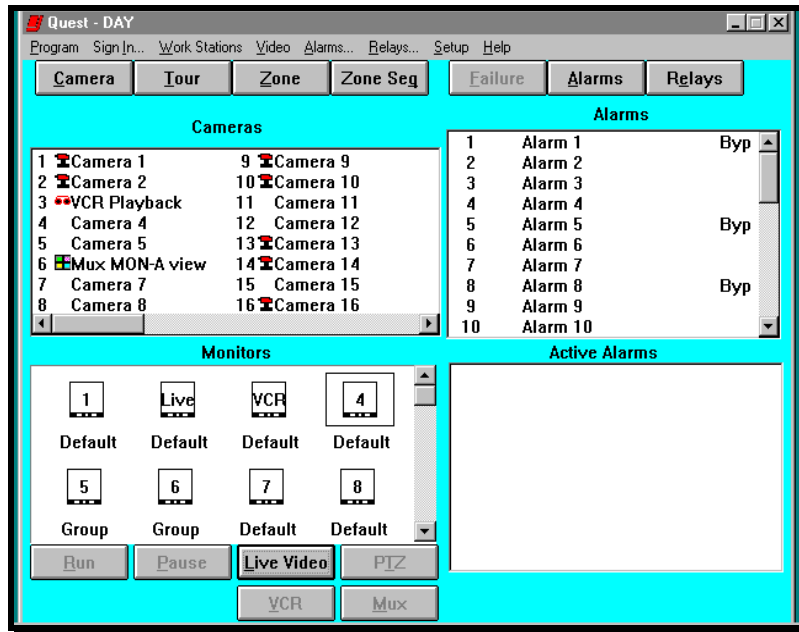

Figure 2-3. Operating Screen
The Operating Screen displays the status of the system's monitors, alarms and relays (Figure 2-3). This screen is also used to execute all of the system's operations; such as video switching, resetting alarms, positioning a camera, just to name a few. Each of the operations will be discussed later in this chapter.
-  If a camera is a dome, has a pan/tilt or has a zoom lens attached, then a pan/tilt icon will be displayed next to the camera input number as illustrated in Figure 2-3.
-  If a camera input is being used to playback video from a VCR, then a tape icon will be displayed next to the camera input number as illustrated in Figure 2-3.
-  If a camera input is being used to display the MON-A monitor output from a multiplexer, then a multiscreen icon will be displayed next to the camera input number as illustrated in Figure 2-3.